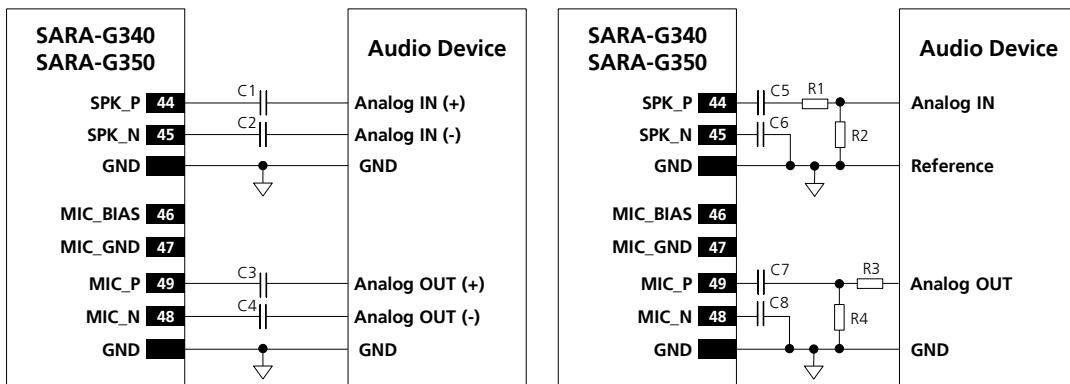

Figure 85: Application circuits to connect the module to audio devices with suitable differential or single-ended input/output
Figure 85 and Table 56 describe the application circuits, following the suggested circuit design-in.
- The **SPK\_P / SPK\_N** balanced output of the module must be connected to the differential input of the external audio device by means of series capacitors for DC blocking (e.g. 10  $\mu$ F) to decouple the bias present at the module output, as described in the left side of Figure 85.
- A suitable differential to single-ended circuit must be inserted from the **SPK\_P / SPK\_N** balanced output of the module to the single-ended input of the external audio device, as described in Figure 85 right side: 10  $\mu$ F series capacitors are provided to decouple the bias present at the module output, and a voltage divider is provided to correctly adapt the signal level from module output to external audio device input.
- The **MIC\_P / MIC\_N** balanced input of the module must be connected to the differential output of the external audio device by means of series capacitors for DC blocking (e.g. 10  $\mu$ F) to decouple the bias present at the module input, as described in the left side of Figure 85.
- A suitable single-ended to differential circuit must be inserted from the single-ended output of the external audio device to the **MIC\_P / MIC\_N** balanced input of the module, as described in the right side of Figure 85: 10  $\mu$ F series capacitors are provided to decouple the bias present at the module input, and a voltage divider is provided to properly adapt the signal level from the external device output to the module input.
- The signal levels can be adapted by setting the gain using AT commands (see the u-blox AT Commands Manual [3], +USGC, +UMGC), but additional circuitry must be inserted if the **SPK\_P / SPK\_N** output level of the module is too high for the audio device input or if the audio device output level is too high for **MIC\_P / MIC\_N**, as the voltage dividers present in the circuits illustrated on the right side of Figure 85 to correctly adapt the signal level.